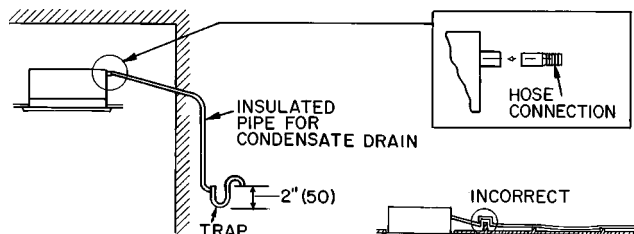

Fig. 12 — Drainage System
1. Connect drain line by inserting the field-supplied hose connector on the condensate drain. Then place 1 in. rigid PVC pipe over the hose connector. Refer to Fig. 12.
2. To ensure regular flow of condensate water, pitch the drain pipe toward open drain or sump at a downward slope. Refer to Fig. 12. Also, make sure that the line continually slopes with no rise or sags as shown in the lower right-hand side of Fig. 12.
3. Provide a trap of at least 2 in. near the end of the drain line to prevent odors from entering rooms. Refer to Fig. 12. Be sure line is not double trapped.